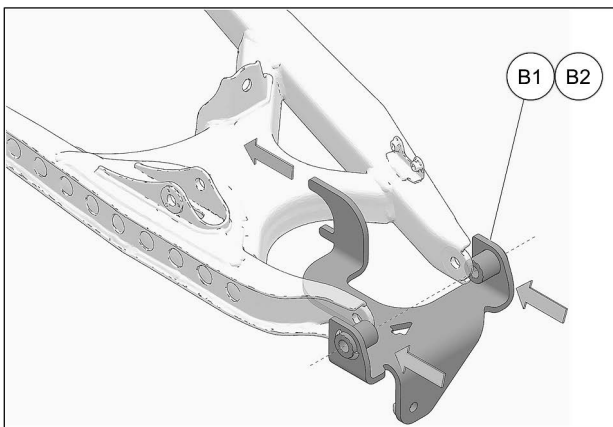

Fig. 6
- Hook back end of anchor bracket (B1-B2) on reinforcing plate. Slide bracket towards vehicle to align anchor bracket bolt holes with suspension arm bolt holes. See Fig. 6